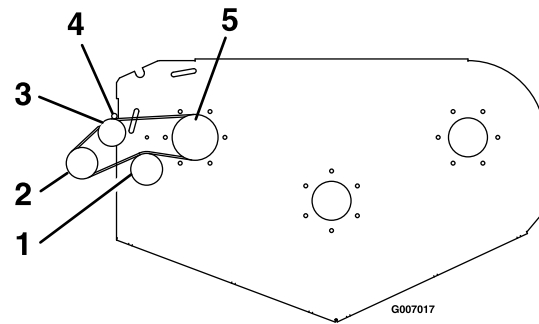

Figure 9
4. Install the belt (from the Drive Kit) onto the Blower Assembly as shown in Figure 9.